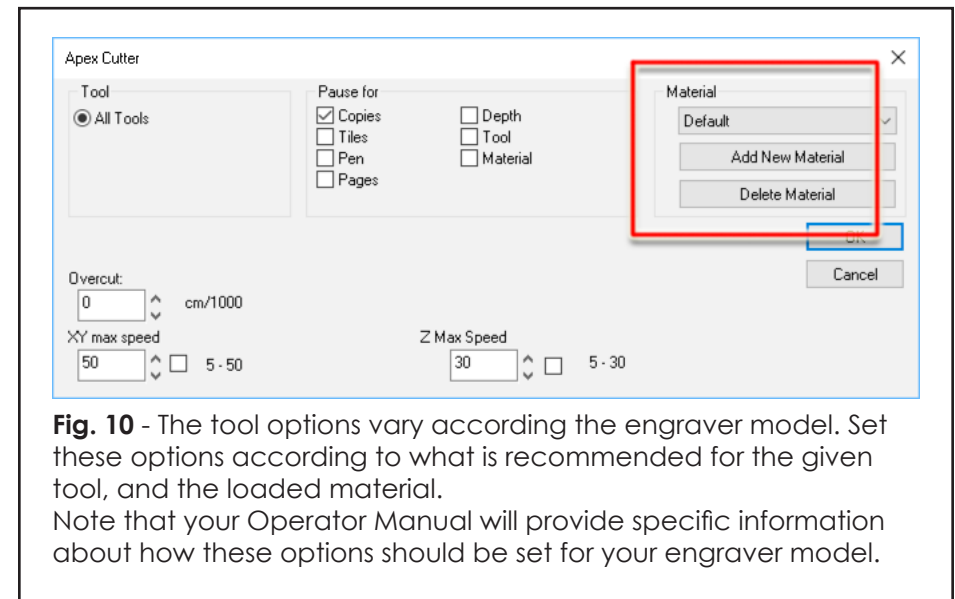

Fig. 10 - The tool options vary according the engraver model. Set these options according to what is recommended for the given tool, and the loaded material.
- The **Tool Options** dialog (Fig. 10) is used to set the feeds and speeds that will be used with your machine.